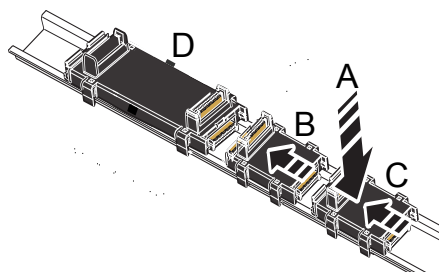

Fig. 10-9: Interconnect the S20 bus base modules and connect them to the control bus base module
2. Mount the S20 bus base module as shown in fig. 10-9 "Interconnect the S20 bus base modules and connect them to the control bus base module" on page 22.